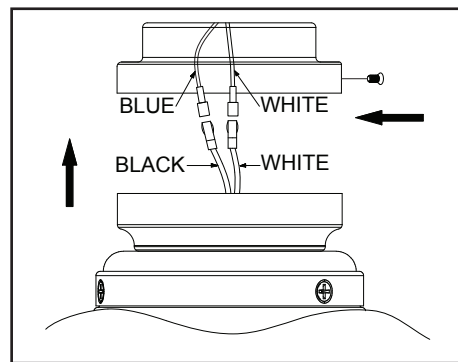

Figure 21
3. Connect the wires from the switch box to the wires from the light kit fitter by connecting the molded adaptor plugs together (blue to black, white to white). (Figure 21)